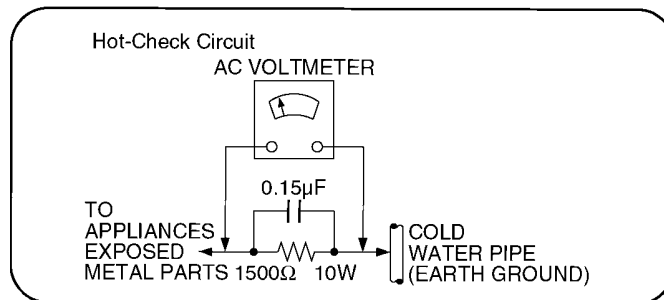

Figure 1
### 1.1.2. LEAKAGE CURRENT HOT CHECK (See Figure 1.)
2. Connect a  $1.5k\Omega$ , 10 watts resistor, in parallel with a  $0.15\mu\text{F}$  capacitors, between each exposed metallic part on the set and a good earth ground such as a water pipe, as shown in Figure 1.